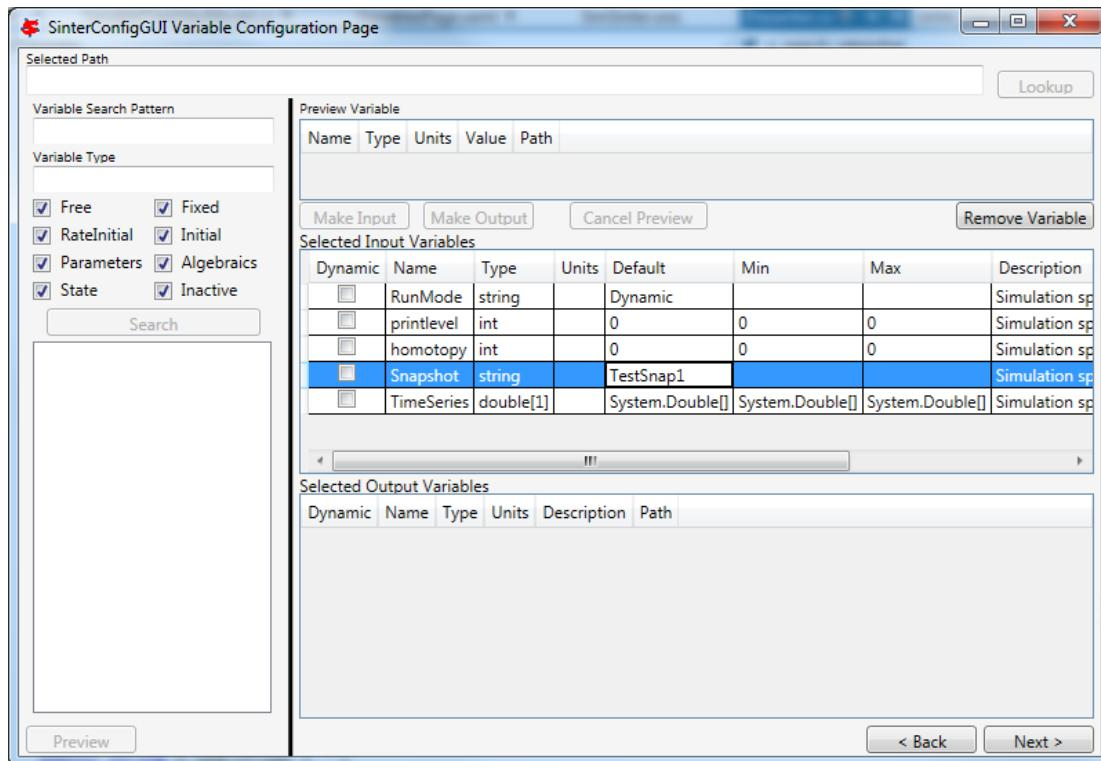

Figure 46: SnapShot setting default set.
11. Enter “TestSnap1” as the name of the SnapShot into SinterConfigGUI as shown in Figure 46.